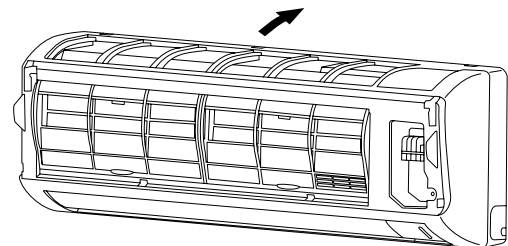

Fig. 3-88
- (1) When installing the grille, place the bottom of the grille into the frame first. (Fig. 3-88)